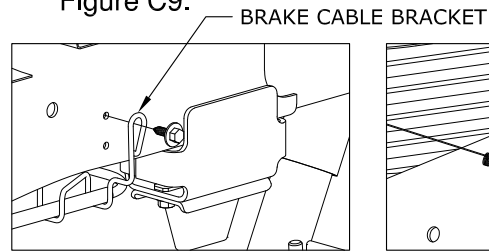

Figure C1: View from outside of Driver Side Frame.
1. **Prepare to install sideplates.** Before installing the sideplates it is necessary to temporarily remove a brake cable bracket on the driver side of the frame, See figure C1. The M8 bolt will be needed to re-attach the bracket in a later step.